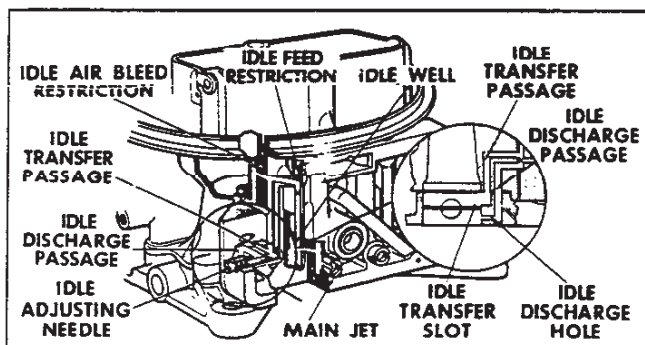

Fig. 3—Idle Speed System
2. The Idle System (fig. 3) is an inverted "U" passage with an idle well (fed by the main jets), an idle feed restriction (jet), two air bleeds (to inside of air horn area), an idle transfer passage (slotted for off-idle operation) and a needle adjusted (idle mixture screw) idle discharge passage. The mixture needle and feed restriction are located in the metering body. The secondary idle